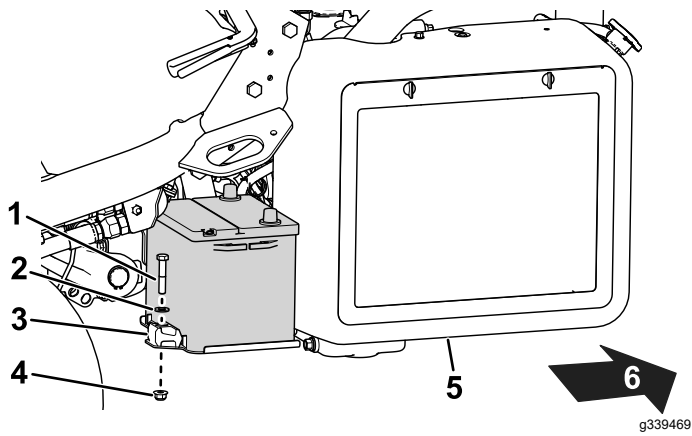

Figure 39
2. Remove the fasteners that secure the battery to the tray (Figure 39) and lift out the battery.
5. Place the battery on the battery tray and secure it with the previously removed rods and fasteners (Figure 39).